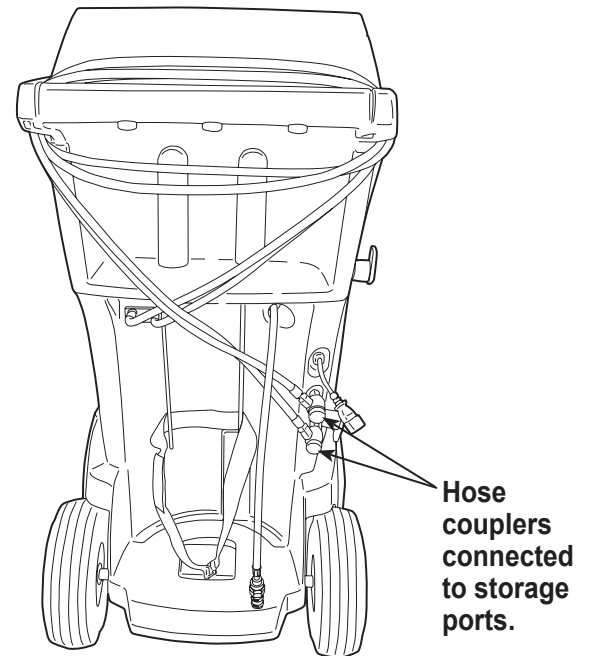

Figure 21
2. Loop the service hoses around the handle twice and attach them to the storage ports. See Figure 21.